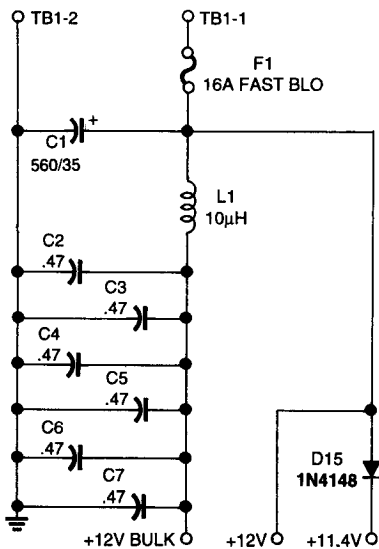

Fig. 3. The input filter for the 200-watt Digital Amplifier smooths out any supply voltage spikes—either from the power supply or from the amplifier.
**Input Filters And Converters.** The input filter (Fig. 3) smoothes out any ripples that might appear in the supply voltage. The positive and negative DC-DC converters (Figs. 4 and 5) are both current-mode controllers. In both DC-DC converter circuits, the current is monitored using the voltage drop across the drain-source resistance of Q1 and Q14.